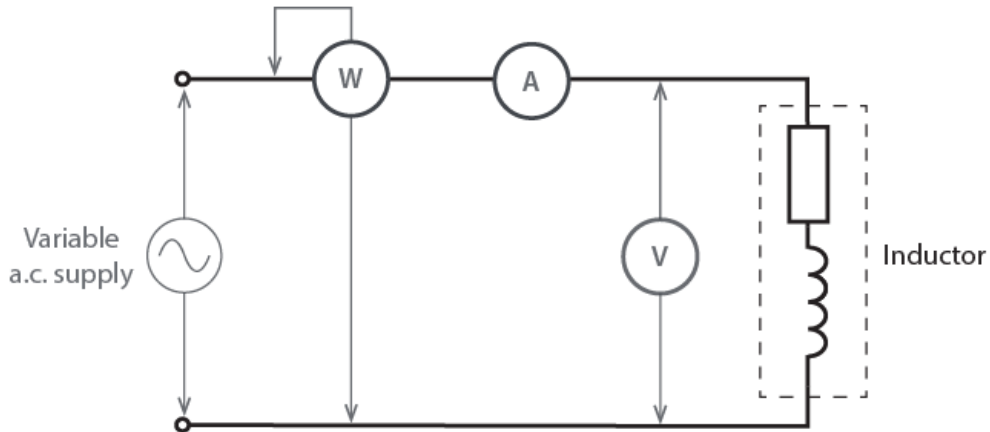

Figure 3
2.3.1 Connect up the circuit as shown in Figure 3 below: